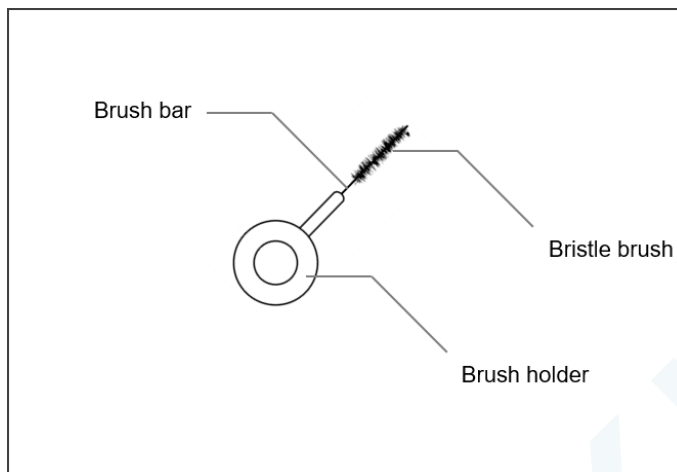

Figure 7.5
The cleaning brush is used to scrub the suction port and instrument channel opening (Figure 7.5).
1. Check to see if the brush head is loose or falling off (Figure 7.5).